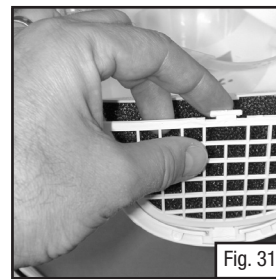
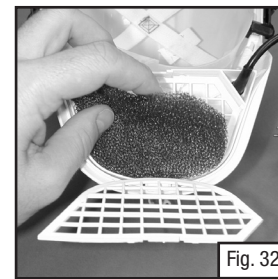
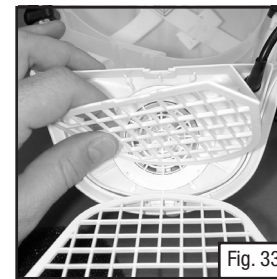

Fig. 31
Fig. 32
Fig. 33
1. Open the outer grill (Fig. 31), remove prefilter (Fig. 32) and inner grill (Fig. 33). Switch the battery pack on and ensure that the fan draws air through the main filter.